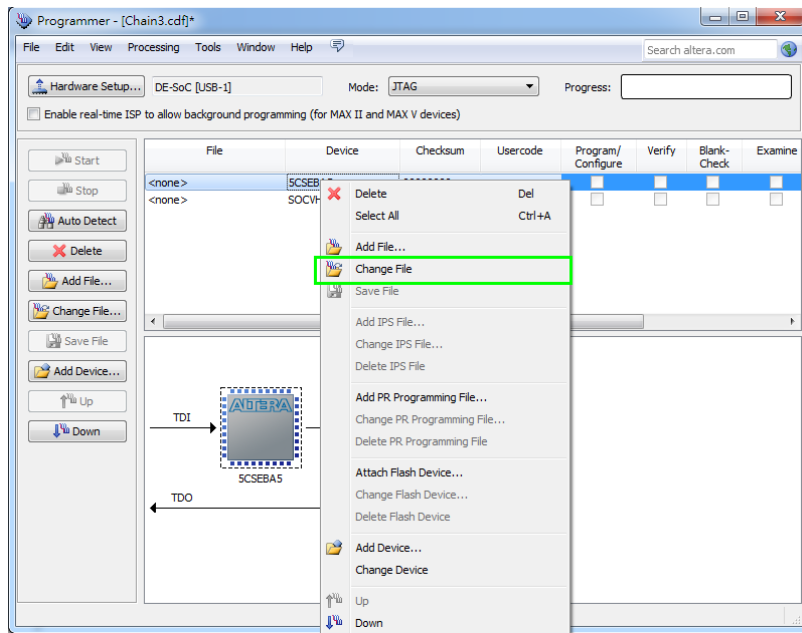

Figure 3-6 FPGA JTAG Programming Steps 4
- Click the FPGA device, right click mouse to popup the manual, and then select .sof file for FPGA as Figure 3-6